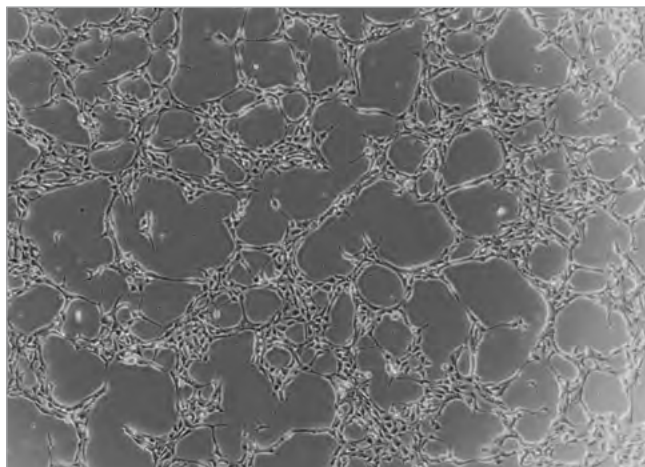

Figure 1. Typical Cell Density of WLS-1C Human iPS Cell Line 24 Hours After Plating 1.25×10^5 Single Cells per Well
- Incubate at 37°C and 5% CO₂ for 24 hours. Refer to Figure 1 for a representative image of cell morphology following 24 hours of incubation.